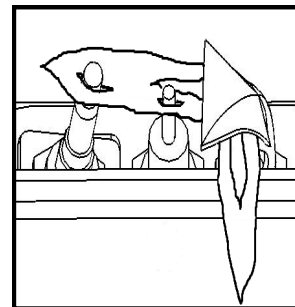

FIG. 2
4. Wait five (5) minutes to clear out any gas. Then smell for gas including near the floor. If you smell gas, STOP! Follow "B" in the safety information above. If you don't smell gas, proceed to step 5.
6. Continuing beeps confirm the ignition is in process. Once lighting the pilot flame should appear as shown in Fig.2. Once the pilot is confirmed, the main burner ignites on high.
For your safety, this appliance is fitted with a flame supervision device which will shut-off the gas supply if, for any reason, the pilot flame goes out. This device incorporates a fixed probe, which senses the heat from the pilot flame. If the probe is cool, the device will prevent any gas flow unless manually lighting the pilot. See full lighting instructions. Periodically check the pilot and the burner flame comparing them to figure 2 on page 20, and the image at the bottom of this page.